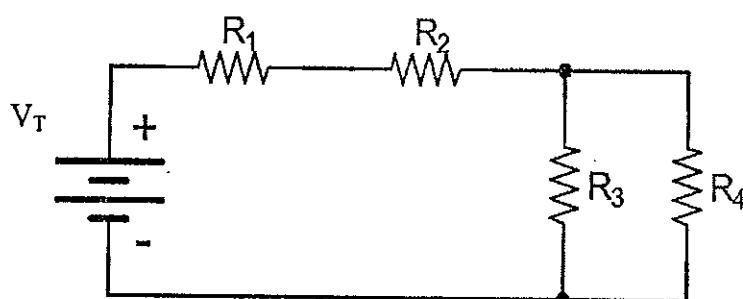

Figure 1 (c) / Rajah 1(c)
- (c) Referring to the circuit in Figure 1(c), the given values are $R_1 = 15\Omega$, $R_2 = 1k\Omega$, $R_3 = 100\Omega$, $R_4 = 150\Omega$ and $V_T = 12V$. Calculate :